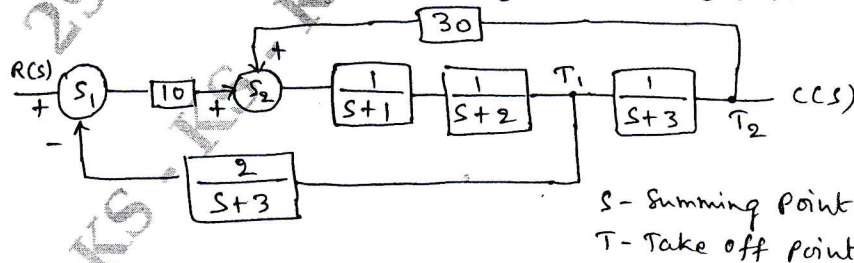

Fig.Q.4(a)
- 4 a. Obtain the overall transfer function for the block diagram shown in Fig.Q.4(a). (08 Marks)